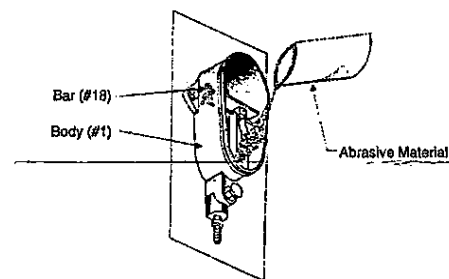

Figure 2 - Bar Position
4. Place the contents of the bag of Abrasive Material into the lower reservoir, as shown in Figure 2, and replace the BAG (#2) around the BODY.